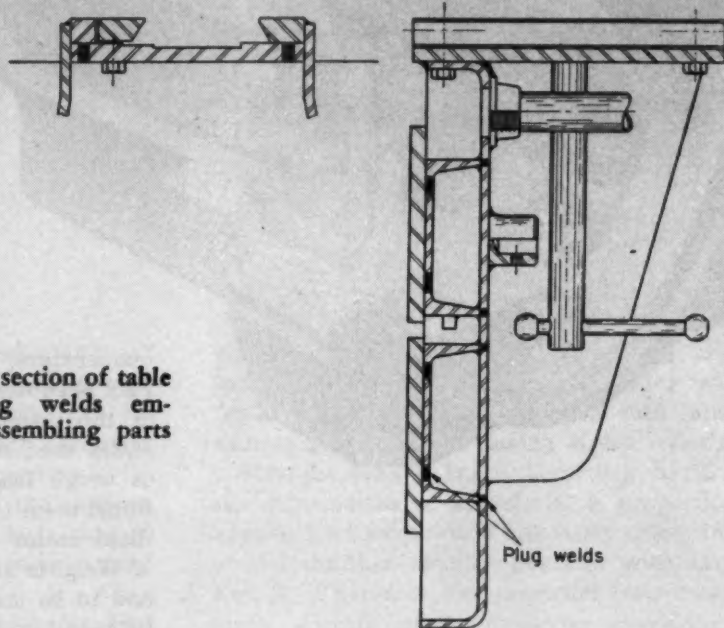

Fig. 2—Cross section of table showing plug welds employed for assembling parts
and to the pan, *Fig. 2*. The slot created by this assembly accommodates T-bolts and no machining is necessary owing to absence of fillet welds along the corner joints.
The dovetail plate, *Fig. 2*, is not made from a single piece but is built-up from a bevel-edge bar and a bar of square section, both plug welded to the back plate. These components are easily and quickly finished to requirements by grinding all critical fit surfaces after welding.
The common helical extension spring will serve as the basis for much of the following discussion. However, principles presented are generally applicable to all types of springs—helical compression, spiral, leaf, etc. *Fig. 2*, for example, shows a compression spring application.
*Fig. 2*—Right—Magnesyn unit, shown exploded, transmits aircraft oil or fuel pressure data electrically to flight engineer's station. Iso-Elastic compression spring shown is corrosion resistant and maintains load-deflection ratio within 1 per cent from  $-67^\circ\text{F}$  to  $158^\circ\text{F}$